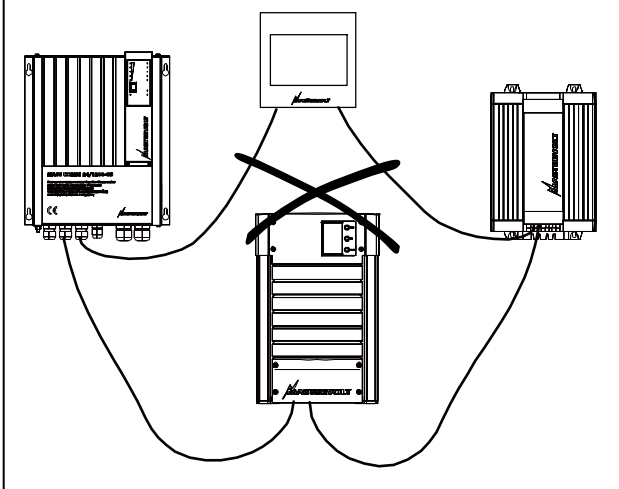

Figure 16: No ring networks
2. To put the MLI-E back in storage mode, 12V should be applied to pins 3/4 of connector J2. Where Pin3 is +12V and pin 4 is GND, as shown in figure 16.